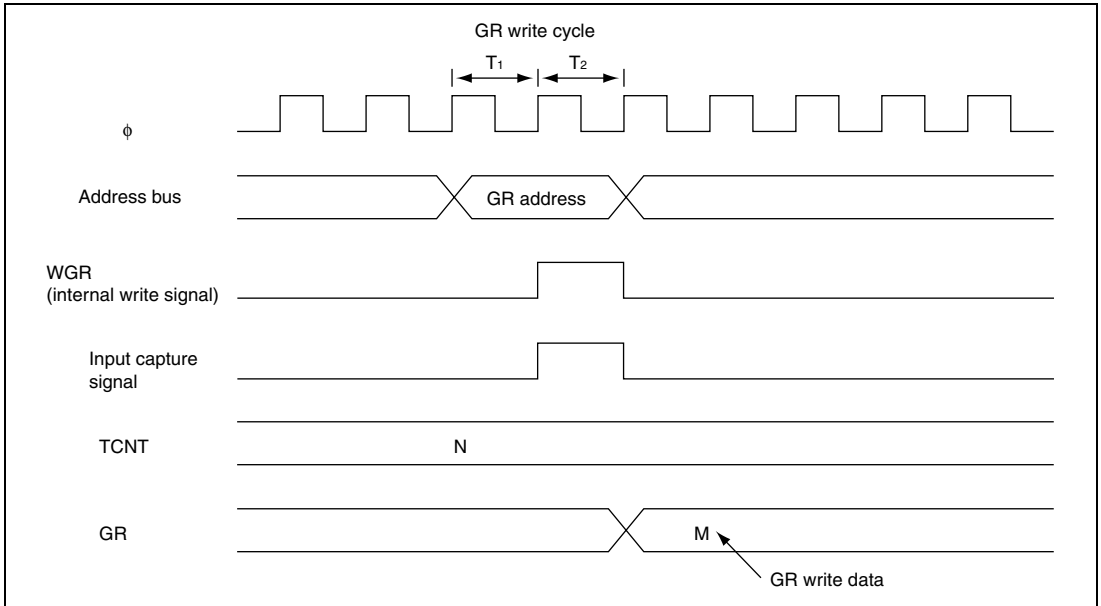

Figure 13.58 Contention between GR Write and Input Capture
7. Contention between GR Write and Input Capture: If an input capture signal is generated in the T_2 state of a GR write cycle, the input capture operation has priority and the write to GR is not performed. Figure 13.58 shows the timing in this case.